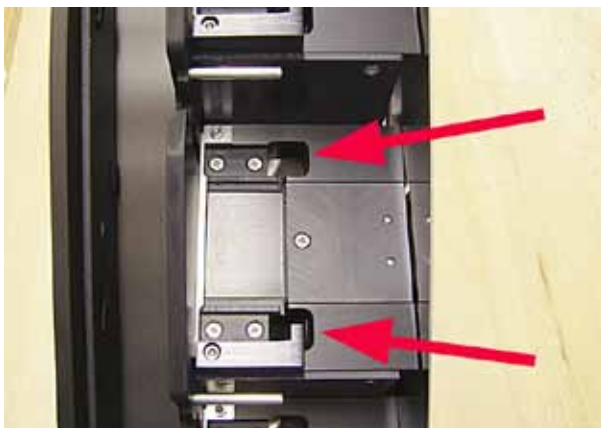

Fig. 44
- Loading station (→ "Fig. 44")